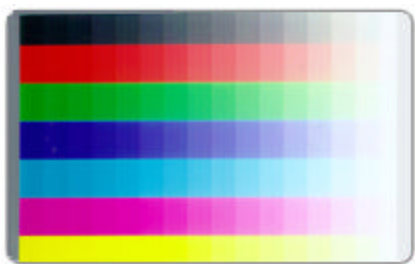

Figure 7-7
All HDP images must have an extra 0.04 in. (1mm) over bleed on all sides of the card. The Outer Alignment Arrows should fall in this area when the image is properly centered; they will be left off of the card when transferred. Refer to Figure 7-7.
2. Examine the test card. The Inner Alignment Arrows should appear at the edge of the leading edge; the Outer Alignment Arrows should not appear on the card, but are shown here for clarity. If your test card does not look like Figure 7-7, go to step 5 to adjust the Transfer TOF.
2. Examine the test card. The Inner Alignment Arrows should appear at the trailing edge, and the Outer Alignment Arrows should not appear on the card. If your test card does not look Figure 7-7, go to step 5 to adjust the Transfer EOF.